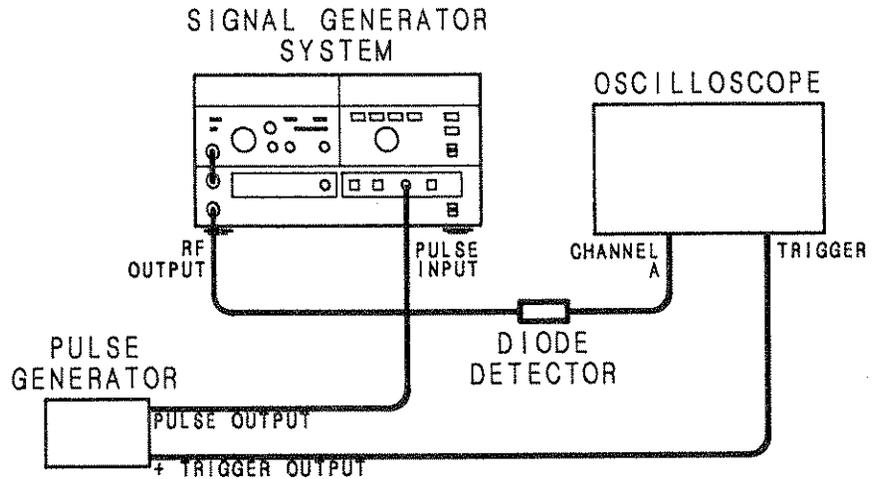

Figure 4-5. Pulse Performance Test Setup
4. Connect equipment as shown in Figure 4-5. Press CW/PULSE. Verify that PULSE, , and LOCAL LED's are lit.